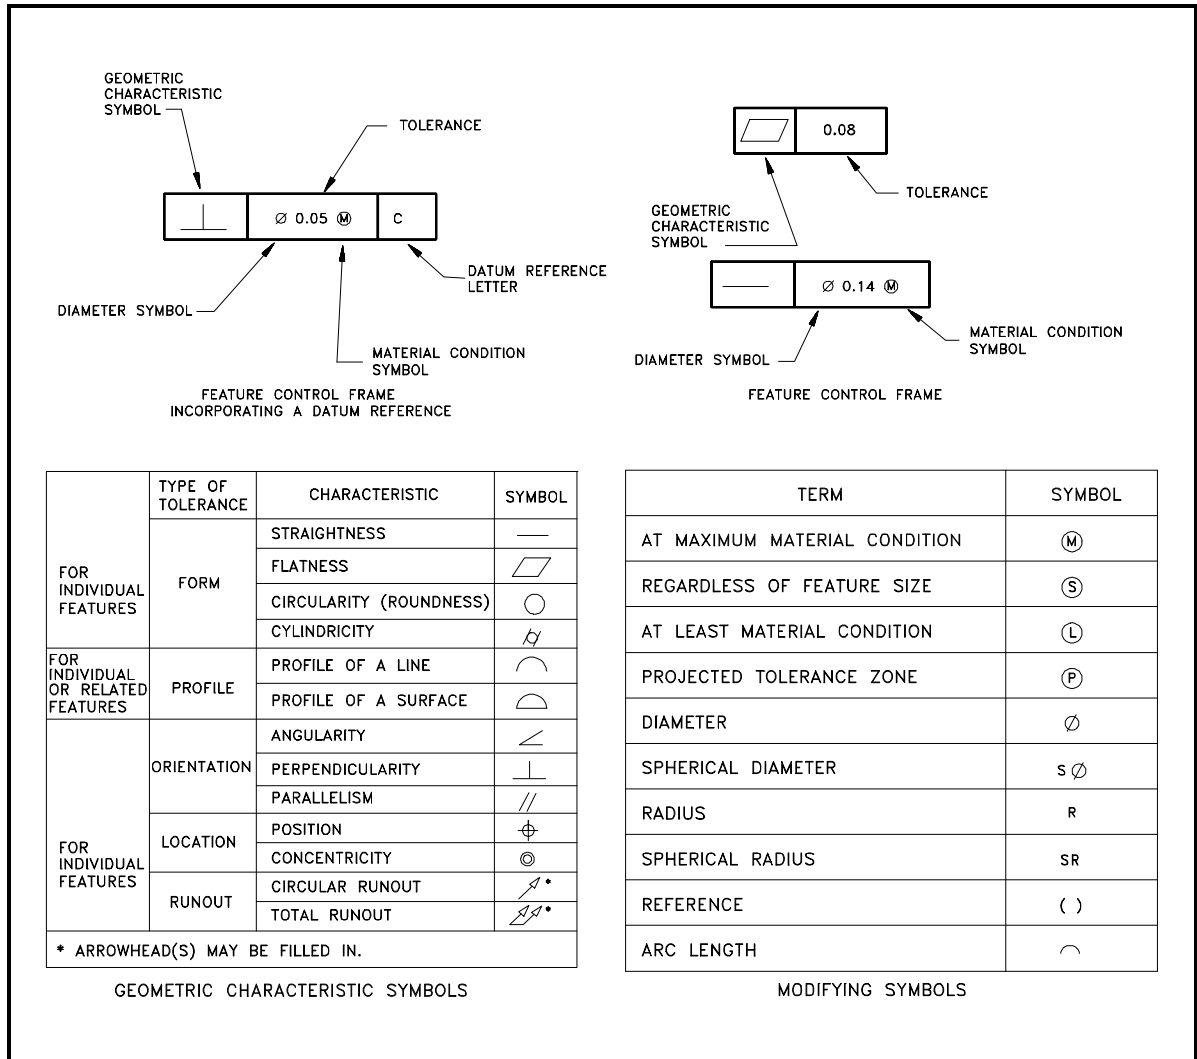
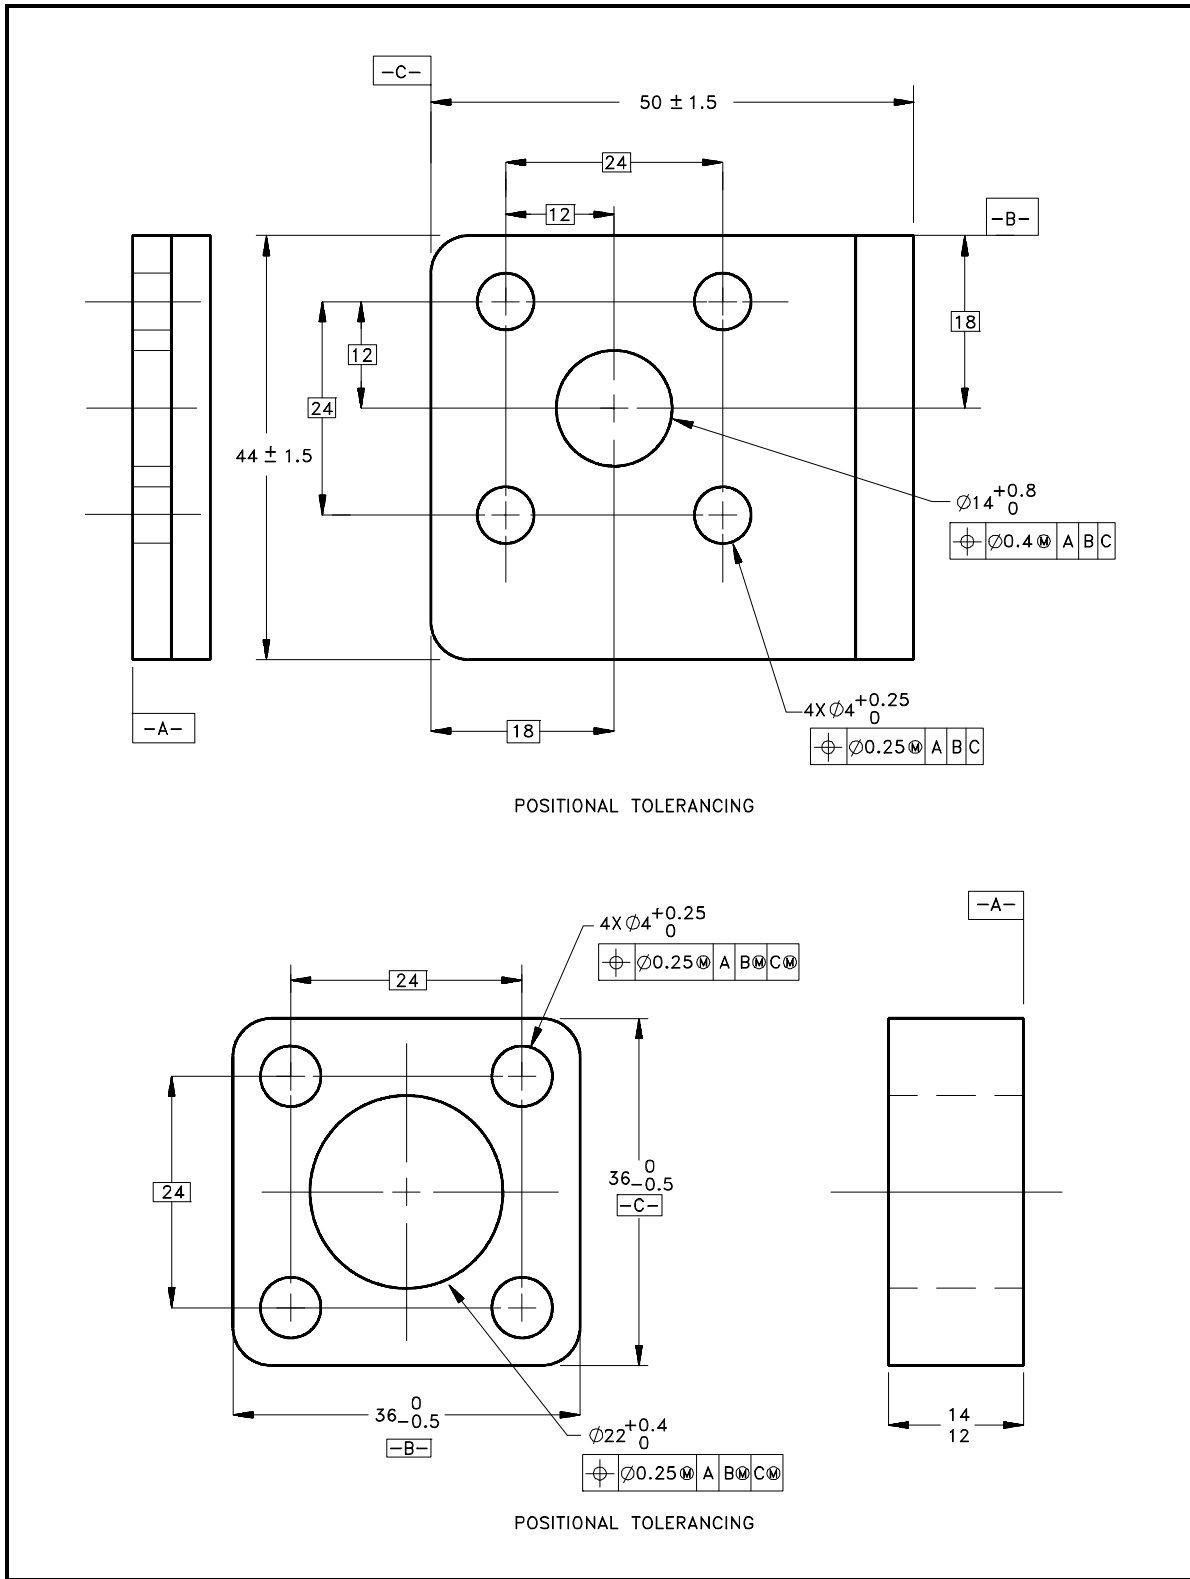

Figure 6 Symboly Used in Tolerancing Drawings
Figure 7 Examples of Tolerance Symboly
The last method is to state the tolerance for a specified dimension with the measurement. This method is usually used in conjunction with one of the other two tolerancing methods. This type of notation is commonly used for a dimension that requires a higher level of accuracy than the remainder of the drawing. Figure 6 provides several examples of how this type of tolerancing notation can appear on a drawing.
Tolerances are applied to more than just linear dimensions, such as  $1 \pm 0.1$  inches. They can apply to any dimension, including the radius, the degree of out-of-round, the allowable out-of-square, the surface condition, or any other parameter that effects the shape and size of the object. These types of tolerances are called geometric tolerances. Geometric tolerances state the maximum allowable variation of a form or its position from the perfect geometry implied on the drawing. The term geometry refers to various forms, such as a plane, a cylinder, a cone, a square, or a hexagon. Theoretically these are perfect forms, but because it is impossible to produce perfect forms, it may be necessary to specify the amount of variation permitted. These tolerances specify either the diameter or the width of a tolerance zone within which a surface or the axis of a cylinder or a hole must be if the part is to meet the required accuracy for proper function and fit. The methods of indicating geometric tolerances by means of geometric characteristic symbols are shown in Figure 6. Examples of tolerance symbology are shown in Figure 7.
1. Using Figure 6, the straight line in the geometric characteristic box indicates "straightness." This implies that the surface must be straight to within 0.02 inches.
1. Using Figure 6, the circle with two parallel bars in the geometric characteristic box indicates "Cylindricity," or how close to being a perfect cylinder it must be (in this case 0.25 inches).